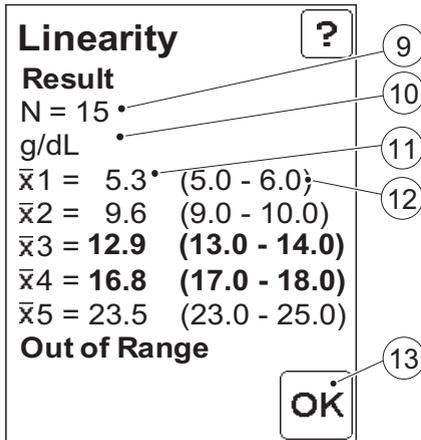

FIGURE 9-16
- a) To browse through the available records, use the scroll bar arrows (4).
- b) To view statistics for the linearity test, press the Statistics button (7). *FIGURE 9-16* will be displayed.